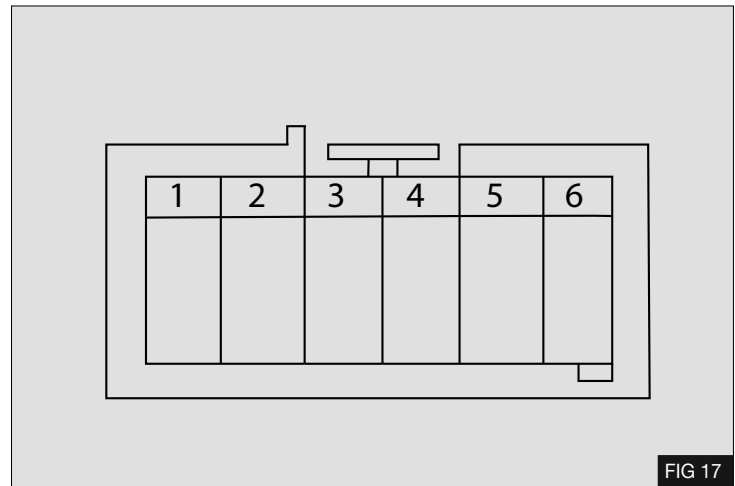

FIG 17
- The fast idle is activated by connecting pin 1 of the 6 way connector to earth – Fig 17